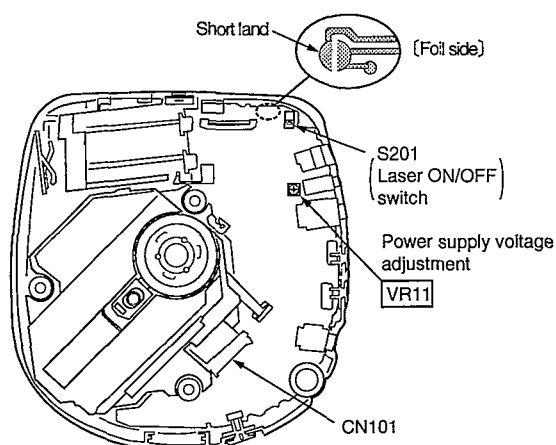

Fig. 1
Short-circuit the lands of the laser ON/OFF switch (S201) by soldering them. It turns “ON” position. (Refer to below Fig. 1 or printed circuit board and wiring connection diagram for short land location on page 28.)
2. Take care to connect CN101, as shown in Fig.1.
4. Adjust **VR11** on the P.C.B. at  $2.70 + 0.02 - 0.00$  V, as shown in Fig. 1.